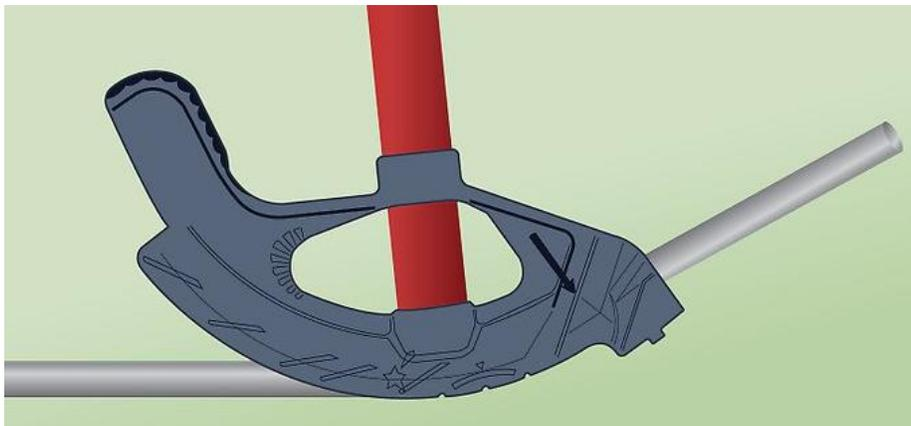

Figure 7.6: Bending EMT
- 7-57 EMT is easy to bend with an EMT bender, as shown in Figure 7.6. Using this type of bender, you can make bends and offsets to fit the contours of the building when installing EMT. However, elbows are also available. They are especially useful for installing large-diameter EMT.